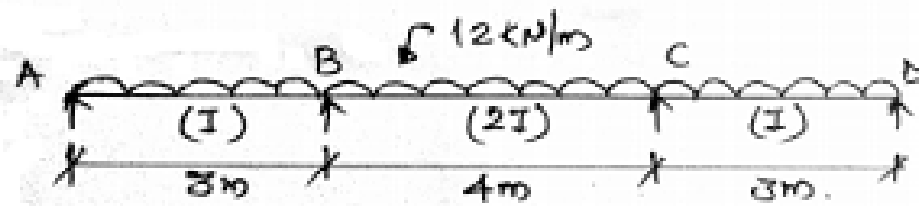

Fig.4
- Q.7 Analyze the beam shown in fig.4 by using moment distribution method if support B sinks by 2mm & support C sinks by 7 mm. Take $E = 200 \text{ KN/mm}^2$, $I_{ab} = I_{cd} = 2 \times 10^7 \text{ mm}^4$ & $I_{bc} = 4 \times 10^7 \text{ mm}^4$. 15
Q.7 Analyze the frame by kani's method as shown in fig. 4 & draw BMD. 15